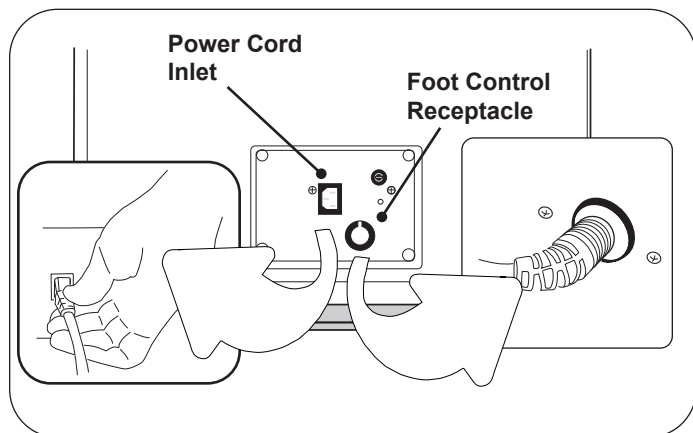

Figure 8. Power Cord and Foot Control Plug-ins
10. Insert the foot control cord into the receptacle at the bottom of the rear panel (Figure 8). Make sure the tab on the plug is aligned with the slot in the receptacle.
11. Plug the power cord into the receptacle at the bottom of the rear panel (Figure 8). Plug the power cord into a 115 Volt or 230 Volt receptacle, depending on your configuration.